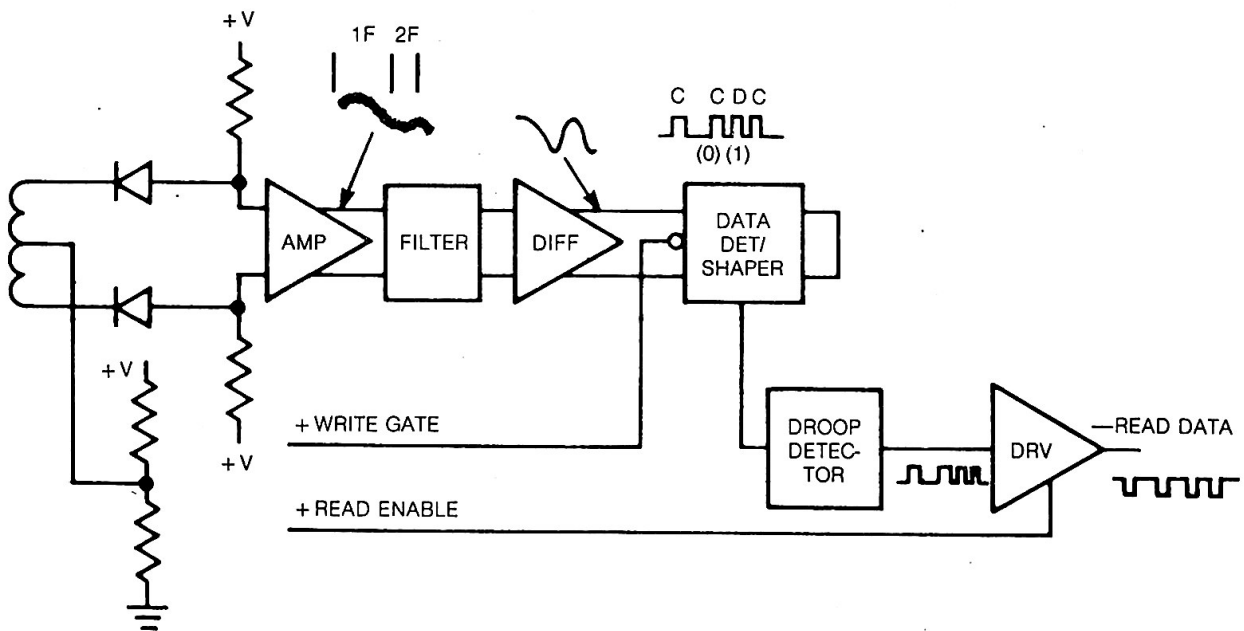

FIGURE 22. READ CIRCUIT FUNCTIONAL DIAGRAM
1.17 READ CIRCUIT OPERATION (FIGURE 22)
Since a pulse occurs at least once every $8\mu\text{s}$ and when data bits are present once every $4\mu\text{s}$, the frequency of the read data varies (FM encoding only). The read signal amplitude decreases the frequency increases. Note the signals on Figure 22. The differential amplifier will amplify the read signals to even levels and make square waves out of the read signals (sine waves).